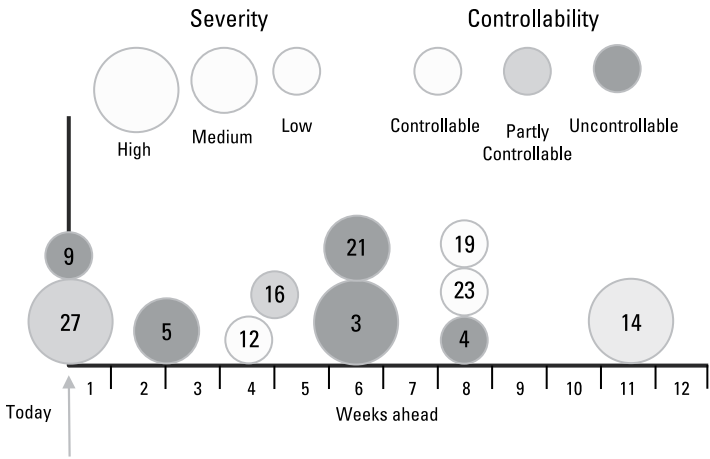

Figure 20-3: Risk Proximity Frame
- ❑ **Risk Proximity Frame:** A constantly changing diagram as you keep it up to date. The left hand side of the frame is 'today' and the *x* axis is then time into the future. You model different risks according to their severity, showing them in different sized circles. You can then see how soon the risks can affect the project and how significant they are. You might, for example, see that there are a lot of high-severity risks that are now just six weeks away. As a refinement you can go on to colour code the circles to show which risks are very controllable, which are partly controllable and which ones can't be controlled at all (such as weather conditions). Figure 20-3 shows an example.